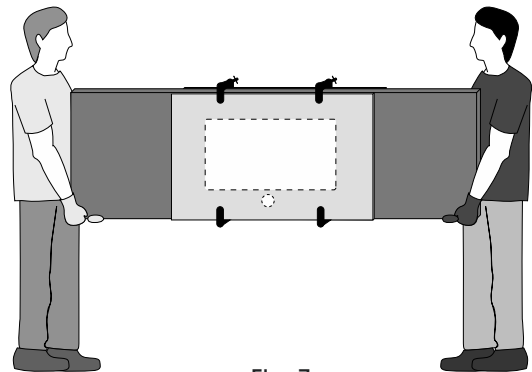

Fig. 7
- Whilst unloading or handling slabs or components using clamps (See Fig. 7) or any other device, always follow equipment supplier's recommendations and ensure relevant safety procedures are followed.